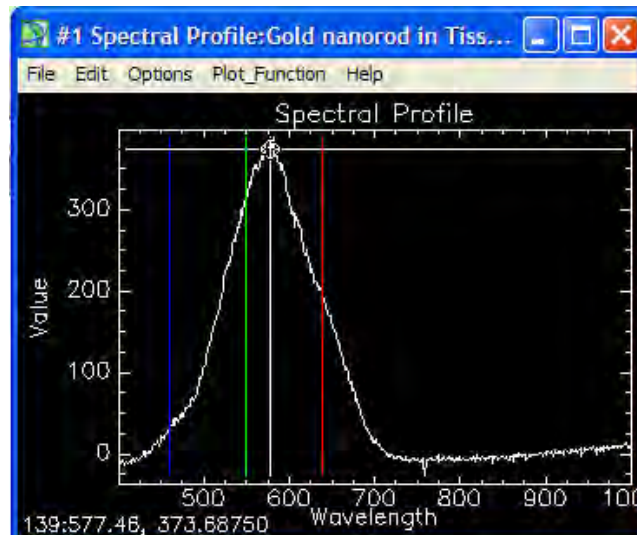

Figure 4. The Spectral Profile with vertical cursor and data readout
1. The spectrum contains data from all the image bands at a specific set of pixels chosen in an ROI or a spectral profile. The band number, wavelength, and spectral intensity can be displayed at the bottom left corner of the plot (see Figure 4)
3. In this example (Figure 4), the data show that the cursor is at band 139, the wavelength is 577.46nm and the intensity of the spectrum is 373.7 units.